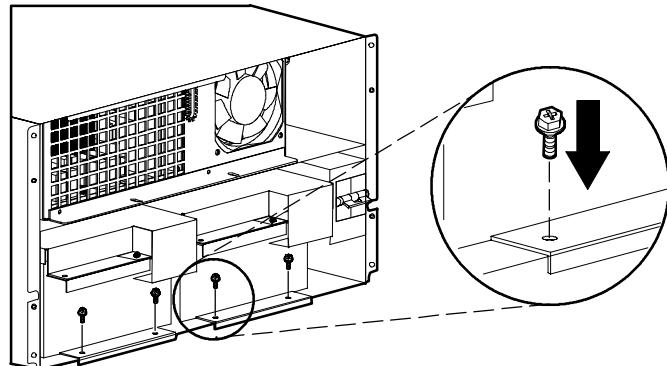

Figure 9. Securing the Battery Trays
7. Secure the battery trays to the chassis with the screws provided in the kit (see Figure 9).